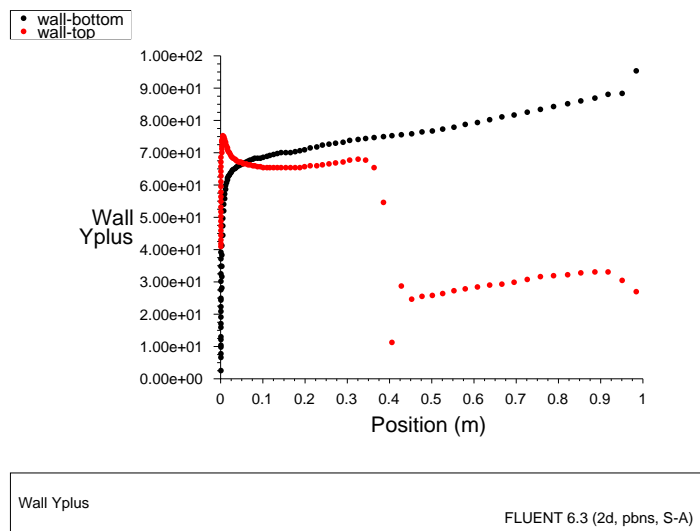

Figure 3.11: XY Plot of  $y^+$  Distribution
1. Plot the  $y^+$  distribution on the airfoil (Figure 3.11).
Figure 3.11 indicates that, except for a few small regions (notably at the shock and the trailing edge),  $y^+ > 30$  and for much of these regions it does not drop significantly below 30. Therefore, you can conclude that the near-wall grid resolution is acceptable.